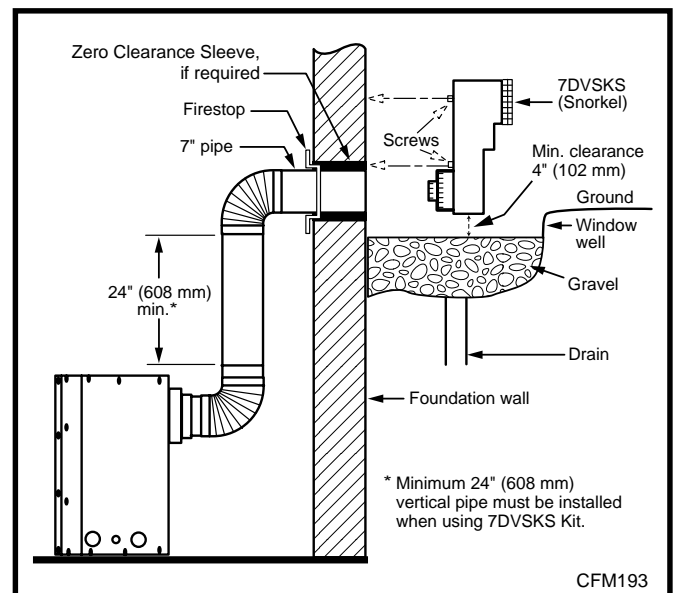

Fig. 28 Below grade installation.
2. Remove soil to a depth of approximately 16" (406 mm) below base of snorkel. Install drain pipe. Install window well (not supplied). Refill hole with 12" (305 mm) of coarse gravel leaving a clearance of approximately 4" (100 mm) below snorkel (Fig. 28).
7. Level the soil so as to maintain a 4" clearance (100 mm) below snorkel (Fig. 28).